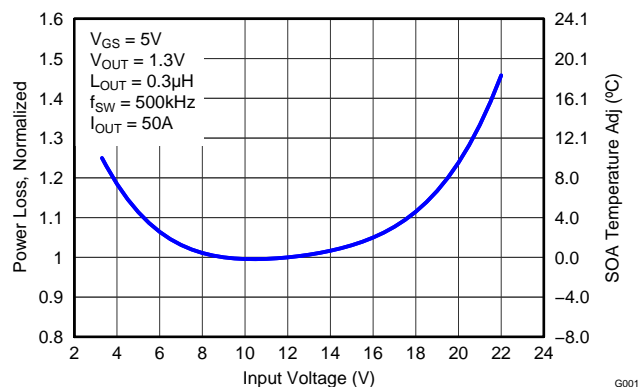

Figure 7. Normalized Power Loss vs Input Voltage
- Normalized Power Loss for input voltage ≈ 1.03 (Figure 7)
- SOA adjustment for input voltage $\approx 1.3^{\circ}\text{C}$ (Figure 7)